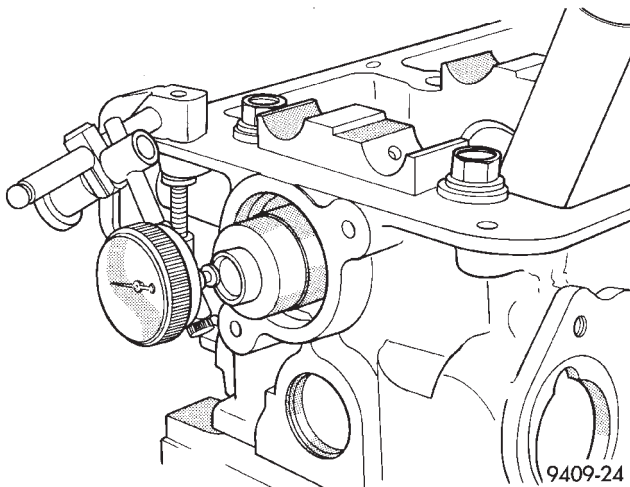

Fig. 13 Camshaft End Play
(1) Lubricate the camshaft journals with oil and install camshaft **without** rocker arm assemblies installed.
(2) Install camshaft target magnet into the end of the camshaft. Tighten mounting screw to 3.4 N·m (30 in. lbs.).
(3) Install camshaft position sensor and tighten mounting screws to 9 N·m (80 in. lbs.).
(4) Measure camshaft end play using the following procedure:
- Mount dial indicator C-3339 or equivalent, to a stationary point on cylinder head (Fig. 13).